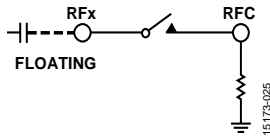

Figure 56. Series Capacitor Directly Connected to MEMS Switch
- Connecting a series capacitor directly to the switch (see Figure 56).